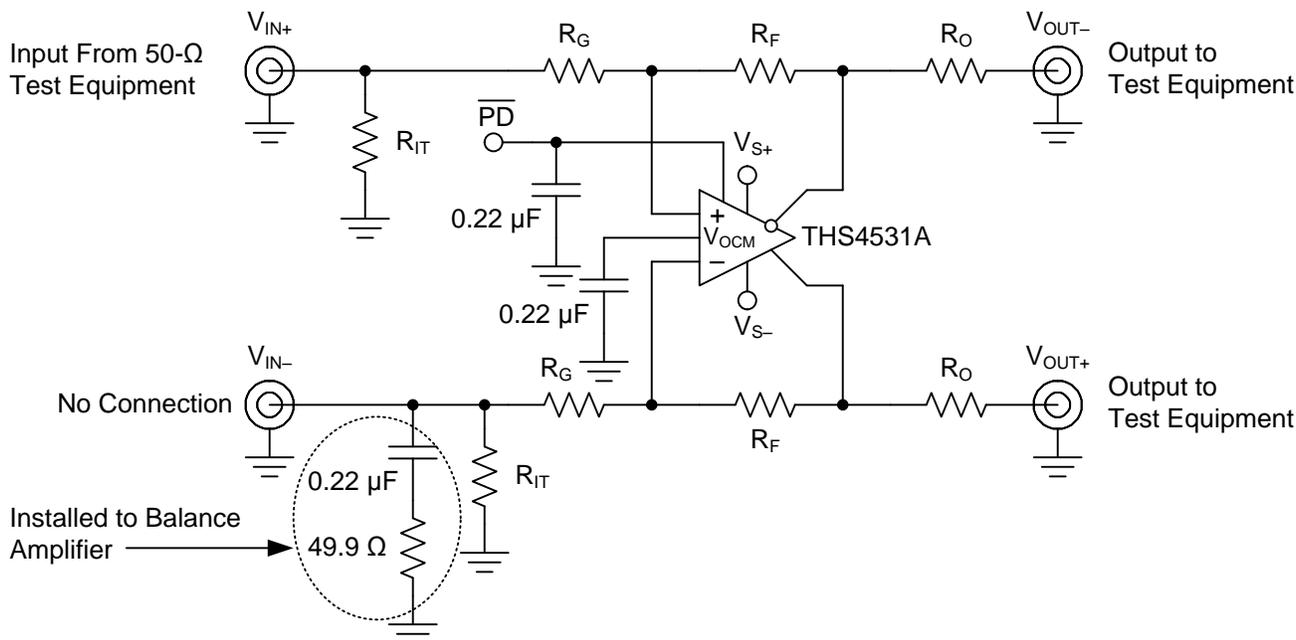
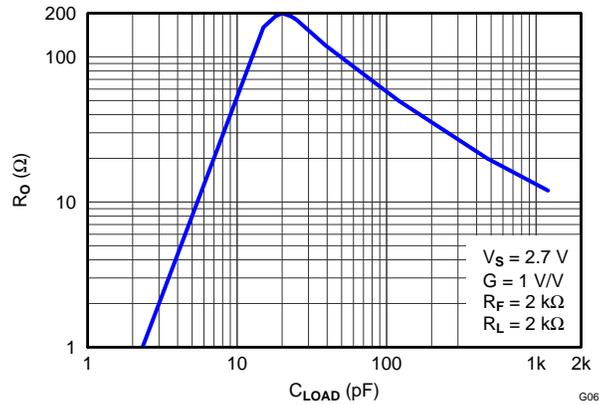
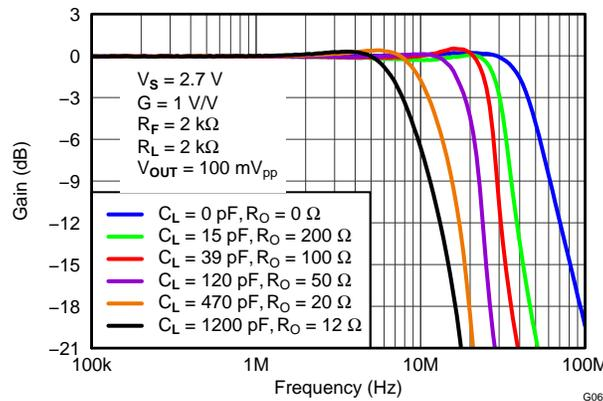

Figure 69. Slew Rate, Transient Response, Settling Time, Z_o , Overdrive Recovery, V_{OUT} Swing, and Turn-on/off Test Circuit
Figure 80. Recommended Series Output Resistor vs Capacitive Load for Flat Frequency Response
Figure 81. Frequency Response for Various R_O and C_L Values
The circuit shown in Figure 69 is used to measure slew rate, transient response, settling time, overdrive recovery, and output voltage swing. Turn on and turn off times are measured with 50 Ω input termination on the \overline{PD} input, by replacing the 0.22 μ F capacitor with 49.9 Ω resistor.
Inserting R_O will compensate the phase shift and restore the phase margin, but it will also limit bandwidth. The circuit shown in Figure 69 is used to test for best R_O versus capacitive loads, C_L , with a capacitance placed differential across the V_{OUT+} and V_{OUT-} along with 2k Ω load resistor, and the output is measure with a differential probe. Figure 80 shows the optimum values of R_O versus capacitive loads, C_L , and Figure 81 shows the frequency response with various values. Performance is the same on both 2.7V and 5V supply.
4. A series output resistor is recommended to be placed as near to the output pin as possible. See Figure 80 "Recommended Series Output Resistor vs. Capacitive Load" for recommended values given expected capacitive load of design.